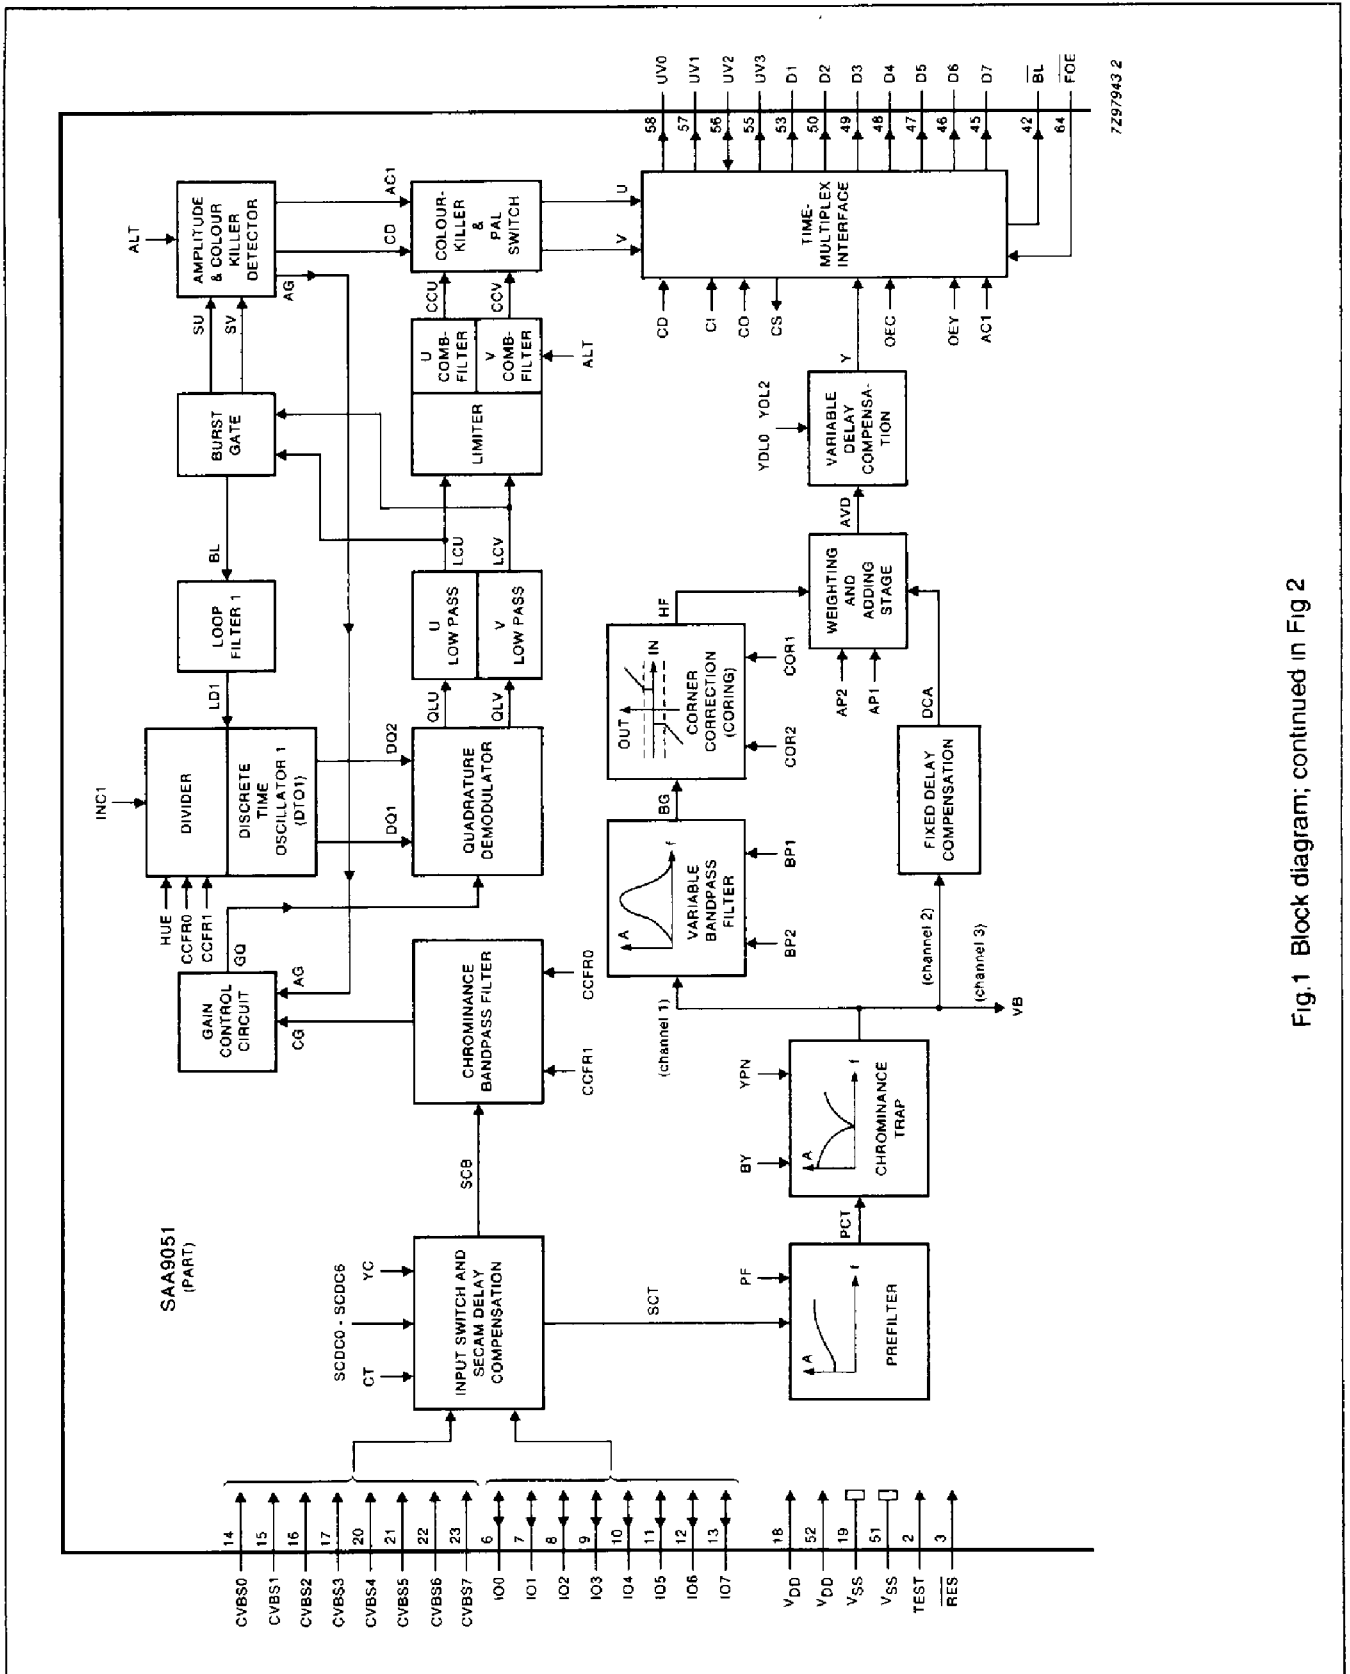

Fig.1 Block diagram; continued in Fig 2
**FUNCTIONAL DESCRIPTION (see Fig.1)**
After the chrominance trap stage (see Fig.1), the luminance path is separated into three Channels as follows:
**Chrominance path (see Fig.1)**